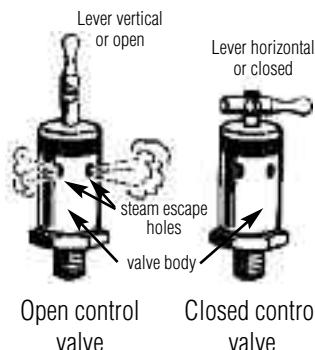

Fig. 2 Fig. 3
3. CONTROL VALVE, PART NO. 65. (See Fig. 2 & 3) To ensure long life and proper operation of the control valve, periodic cleaning is recommended. To clean,